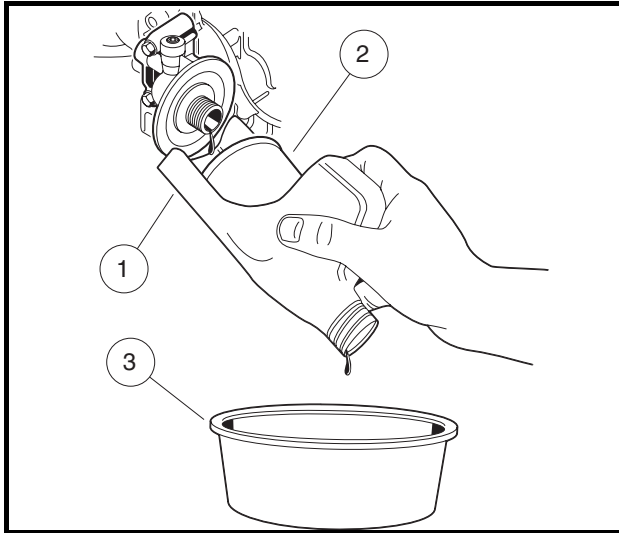

Figure 26 Remove Engine Oil Filter
**NOTE:** An oil drip guard (1) can be used to prevent excess oil from dripping onto the engine base plate (**Figure 26**). Use an empty quart (one liter) container and cut the bottom off at an angle, then slide the open area of the container up and under the oil filter (2) before removal. Position the port of the plastic container so oil will be directed into the oil pan (3). A drip guard can be made by folding a piece of cardboard, thin metal, or plastic under the oil filter, forming a channel to direct the filter port oil into the drain pan.